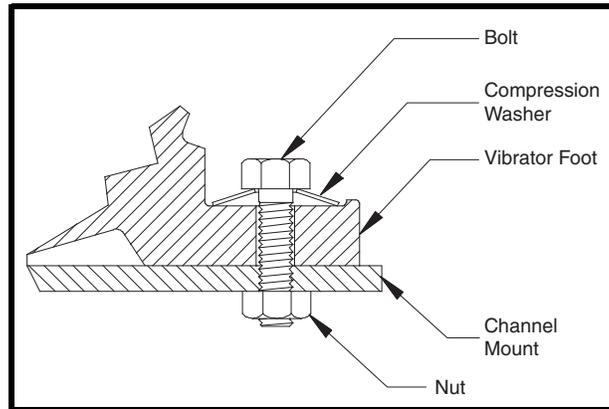

Figure 2. Bolt Torque Specifications*
6. Install vibrator onto mount using new cap screws, compression washers, and lock nuts. See Figure 2 for mounting bolt sizes and torque requirements.